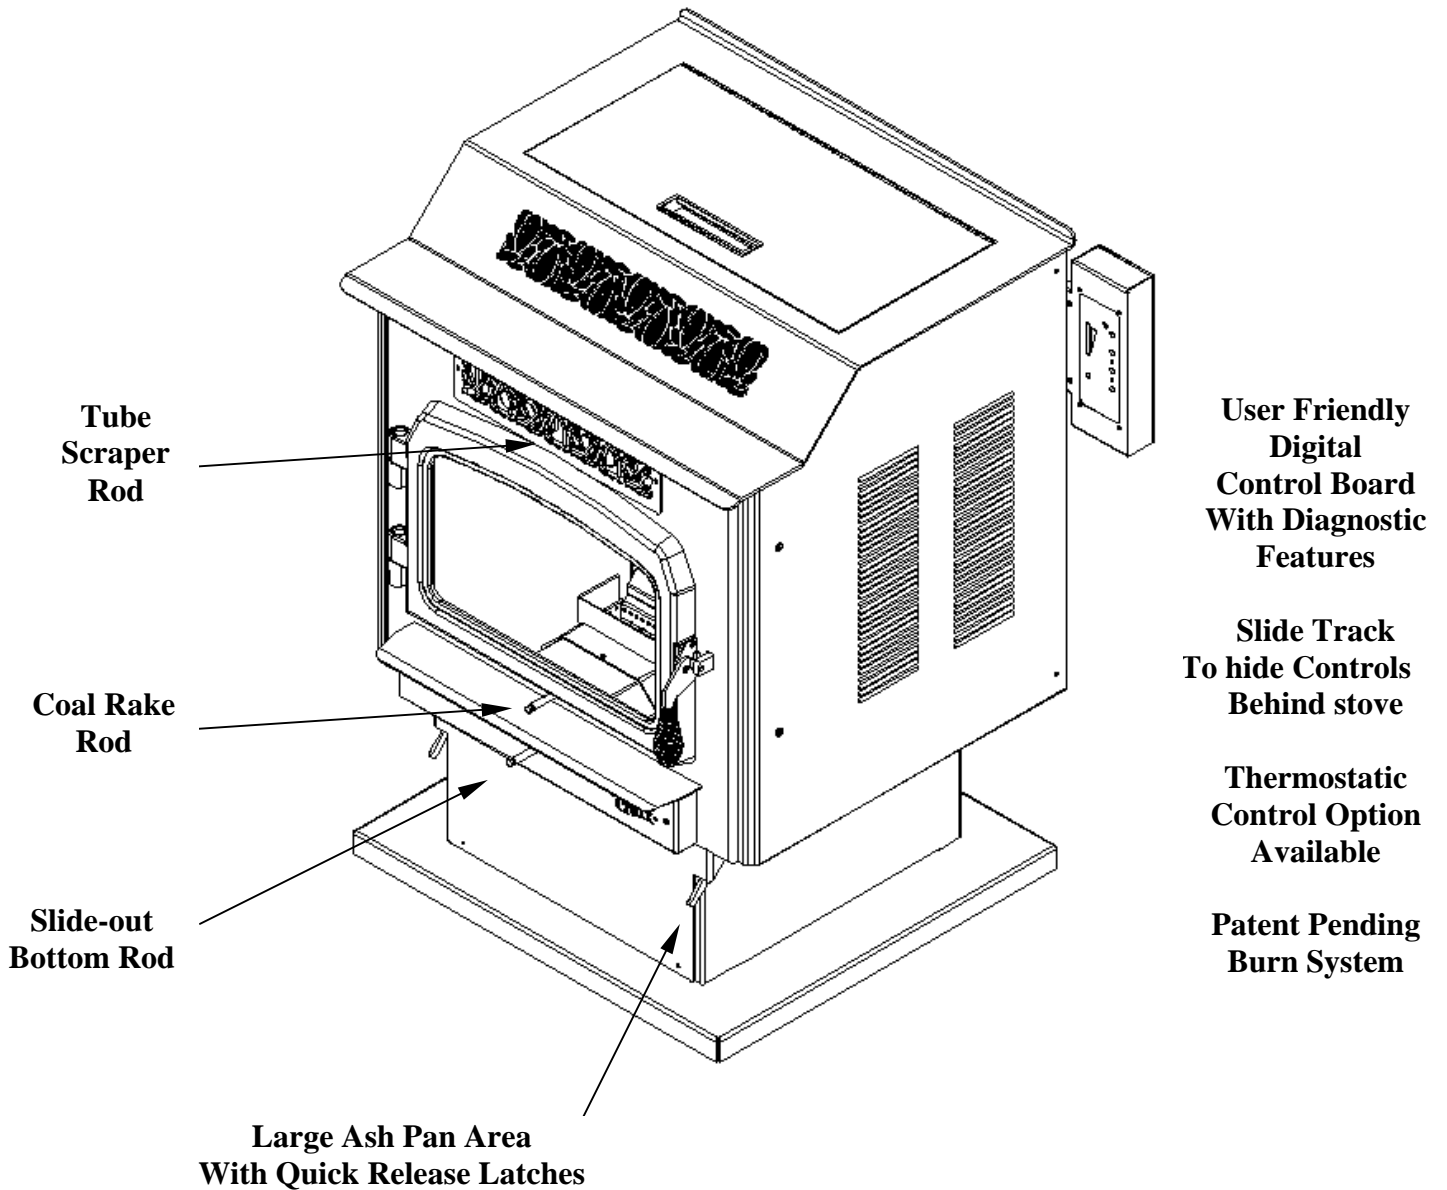

Figure 1
**CAUTION: The Coal Rake must be pulled out and the Slide-Bottom pushed in to operate the stove. (See Figure 1, Stove Layout on page 1)**